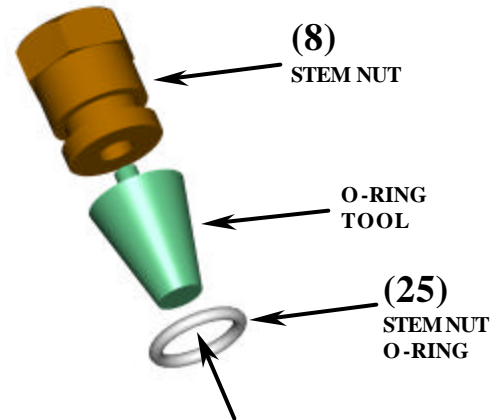

Figure 12
- 2.2 Use Betts' O-Ring Tool 3830AL and slide the *Stem Nut O-Ring (25)* onto *Stem Nut (8)* as shown in figure 12.